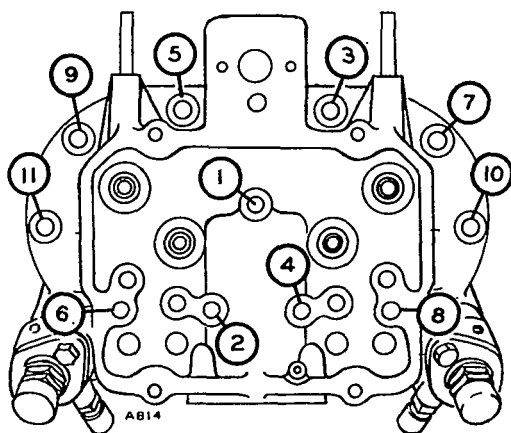

FIGURE 54. HEAD BOLT TORQUE SEQUENCE
5. Install head assembly and gasket to cylinder block. Tighten head bolts to 44 to 46 foot-pounds (60-62 N•m). Follow sequence in Figure 54 and Steps a. through c.
- Tighten cylinder head bolts in sequence shown in Figure 54 to 25-30 foot-pounds (34-41 N•m).